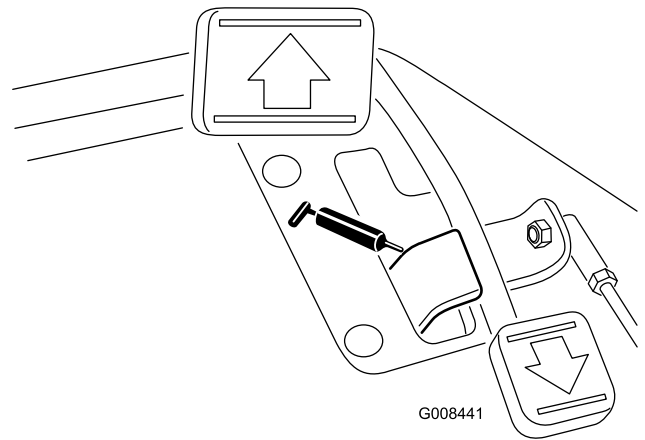

Figure 35
- Traction pedal pivot (1) (Figure 35)